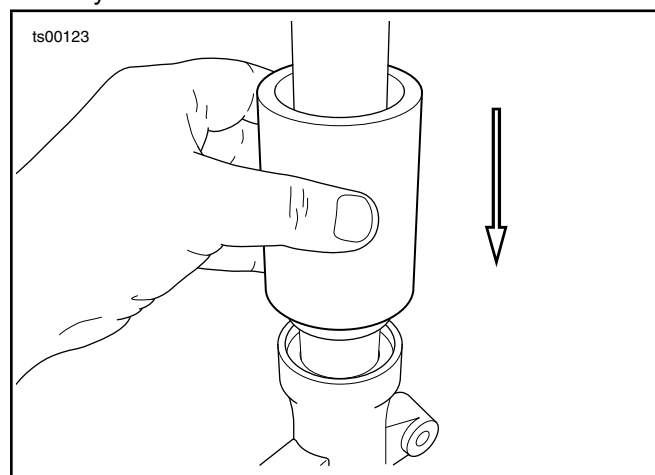

Figure 3.
2. See Figure 3. Place FORK SEAL AND BUSHING INSTALLATION TOOL (Part No. HD-51462) over slider tube with the fork seal and bushing installer side downward. Tap on spacer until bushing is fully seated.